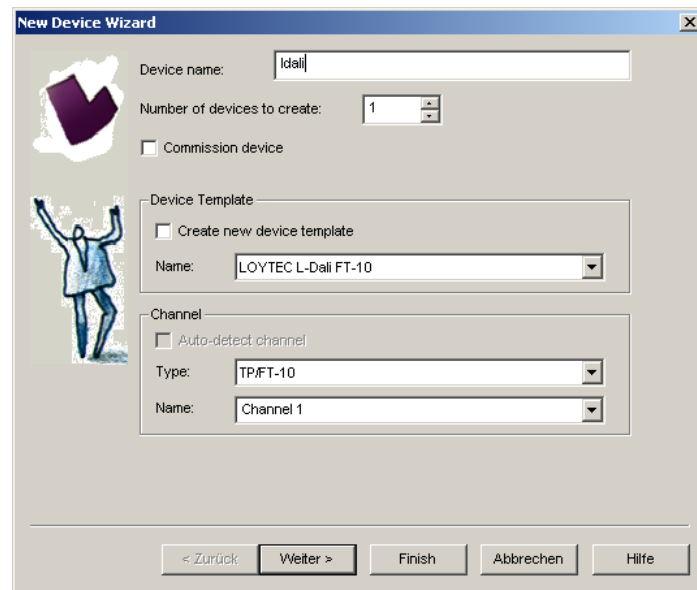

Figure 128: Create a new device in the drawing.
1. In your LonMaker drawing, drag a device stencil into the drawing. Enter an appropriate name as shown in Figure 128.